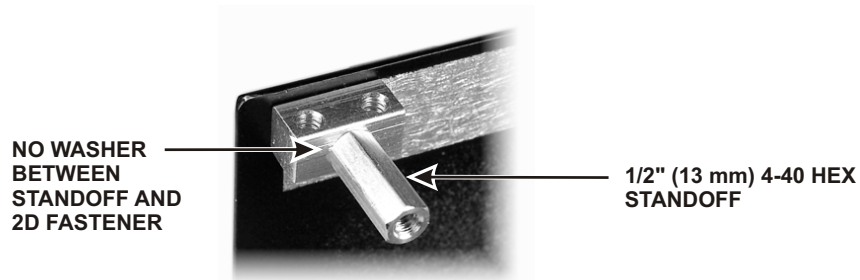

Figure 21. KANT3 Mounting Standoff.
□ Screw a 4-40 1/2" (13 mm) standoff onto the exposed end of the screw as shown in Figure 21. **Do not use a lock washer between the standoff and the 2D fastener.** Tighten the standoff securely against the 2D fastener. Set the side panel aside temporarily.